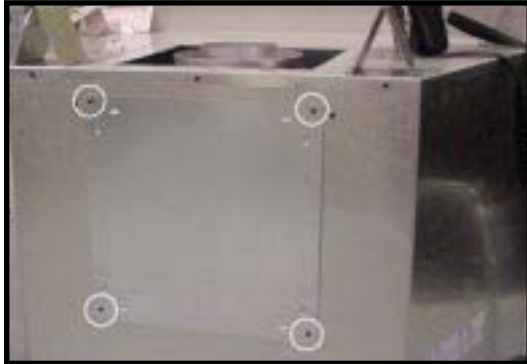

Figure 10 - Back Cover Plate
6. Remove four screws holding the back cover plate on. Remove the cover plate. See Figure 10.